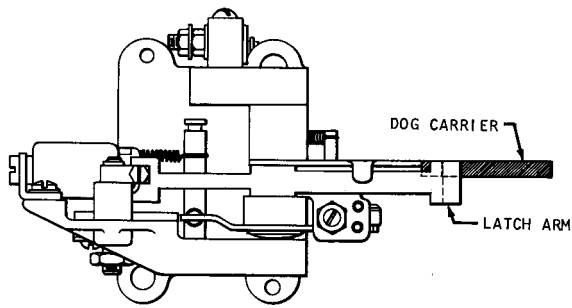

Figure 28. Clutch Arm and Dog Carrier Relationship
a. At the same time position the unit sideways so that the keeper is flush with the edge of the dog carrier within  $.010''$  (Figure 28).